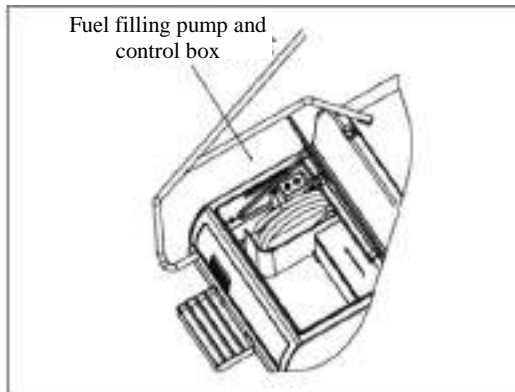

Figure 4-9 Refueling pump
a). Open the cover of the fuel injection port(F),level gauge (G) rises with the oil level increasing. Check whether the fuel tank is full by looking the tank and check the level gauge (G). If the tank is not full, insert the suction pipe of the fuel filling pump into the tank (Figure 4-9), and turn on the machine power by the start switch.